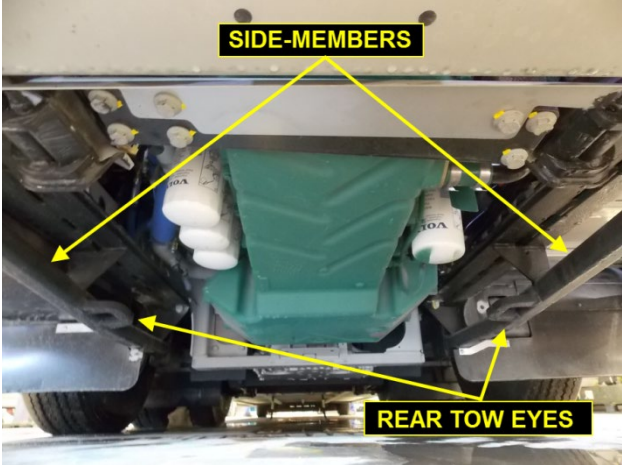

FIGURE 60: REAR TOW EYES ON SIDE MEMBERS LOCATED UNDER ENGINE CRADLE SUPPORT RAILS
- 5. Deploy the tow truck stinger arm. Place the axle forks under the rear tow eyes if equipped or under the side members (Figure 60).